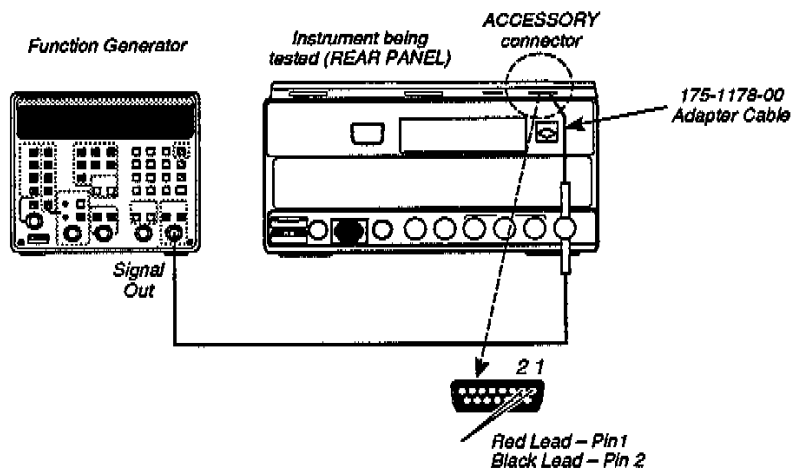

Figure 4-21. Test Equipment Connections for Internal Trigger Check.
2. Connect the test setup as per Figure 4-21.
1. Connect the test setup as per Figure 4-21.